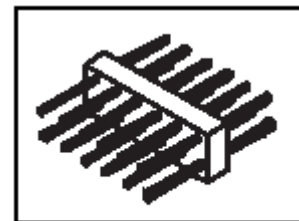

Figure 10-2: 12-pin header
- 6) As you are facing the front of the repeater, the RX module is on the left and the TX module is on the right. Lift the RX module up slightly. Carefully remove ribbon connector attached to front of the module. Do not pull on cable. Grab the connector and pull. **Make sure that the 12-pin header (see *Figure 10-2*) is removed along with the connector.** Note that the connector is 14-pin and the header is 12-pin. The red stripe is on the far left of each connector, as you are facing the front panel.